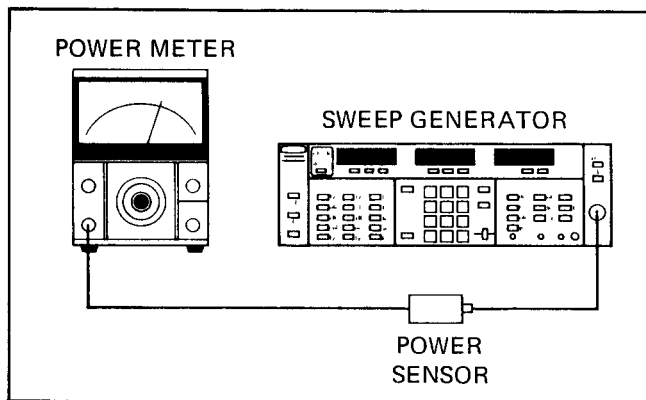

Figure 5-40. Test Equipment Setup for RF SLOPE and Power Level Adjustments
1. Set up the test equipment as shown in Figure 5-40, and turn the equipment on.